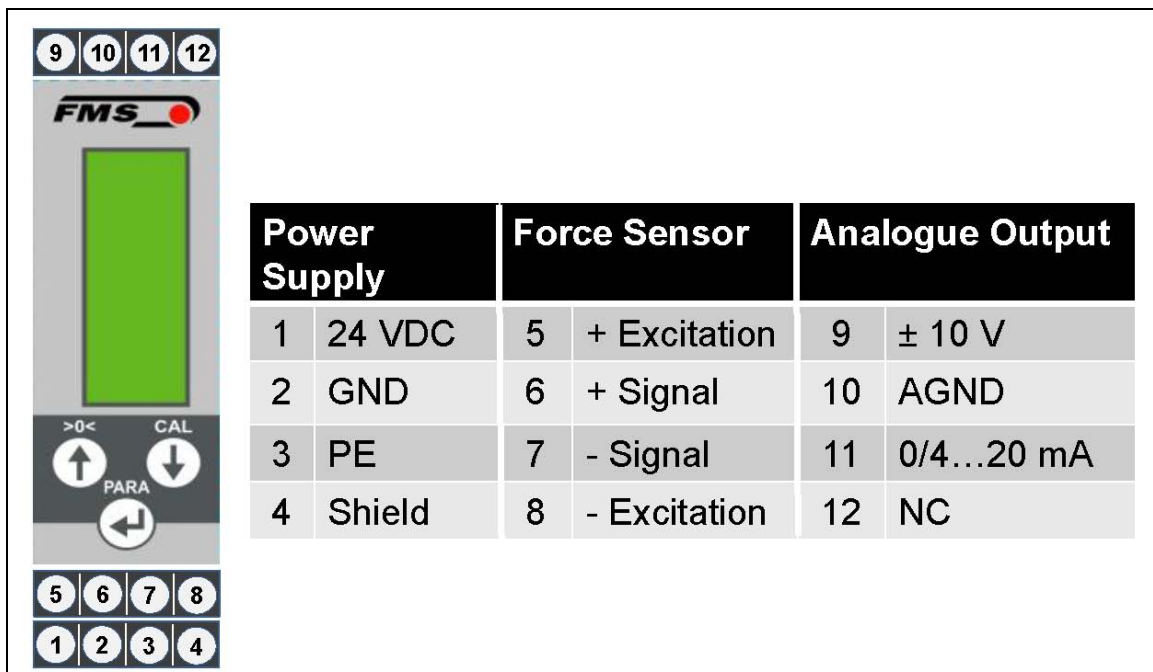

Fig. 2: Wiring of EMGZ 310
1. Connect the first force sensor (see Fig.2 Wiring Diagram EMGZ310)